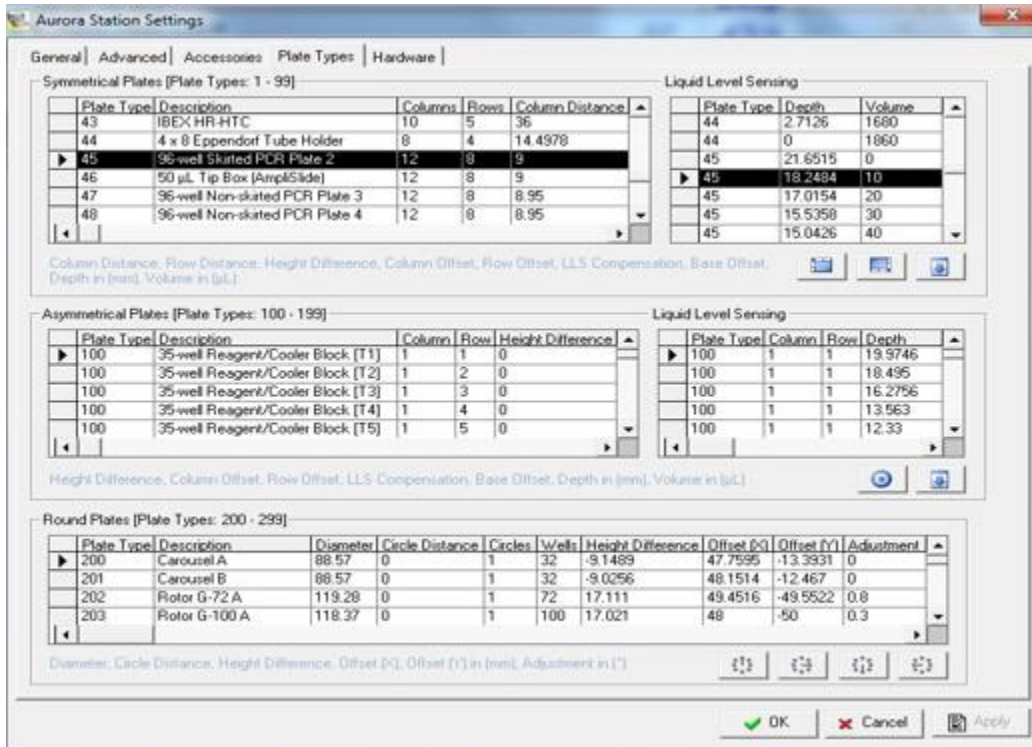

Figure 9-71 Testing LLS Parameters under Aurora Station Settings Plate Types Tab
- Click on the plate type icon in Aurora Station. Focus on the topmost table to test LLS parameters. To achieve this, click on the particular plate type field for test (Figure 9-71 Testing LLS Parameters under Aurora Station Settings Plate Types Tab).